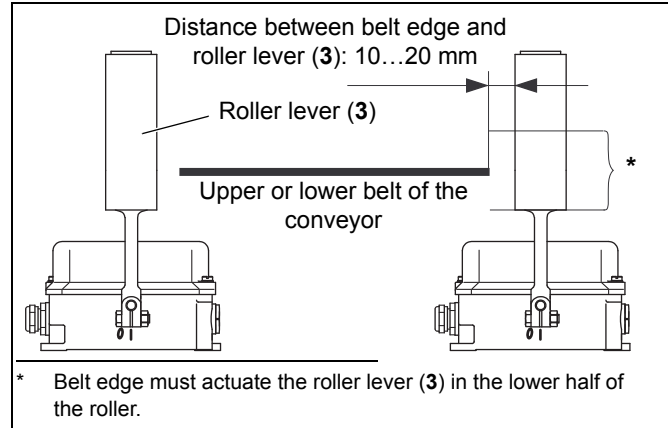

Fig. 5-2: Mounting paired belt misalignment switches on the conveyor
Make sure to mount the belt misalignment so that the belt edge actuates the roller lever (3) in the lower half of the roller when the belt deviates from its designed running line. This prevents the belt from sliding over the roller lever (3) (see fig. 5-2).
where the axis distances are larger or material is transferred (see fig. 5-2).
In order to minimize roller lever (3) wear, mount the roller lever (3) in such a way that it is located approximately 10 to 20 mm in front of the belt edge (see figures 5-2 and 5-4).
3. Fit the roller lever (3) onto the shaft (14).